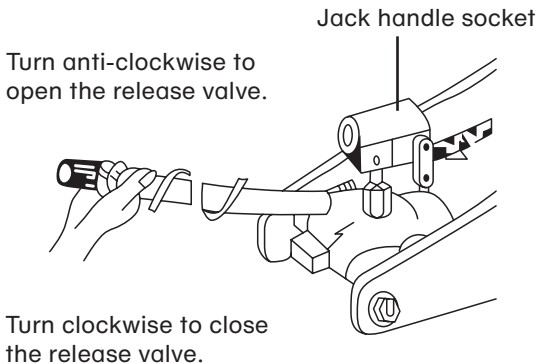

Fig. 1
4. Turn the release valve to the right to close. Use the jack handle to do so (see Fig. 1).
1. open the release valve, turning anti-clockwise (see Fig. 1).